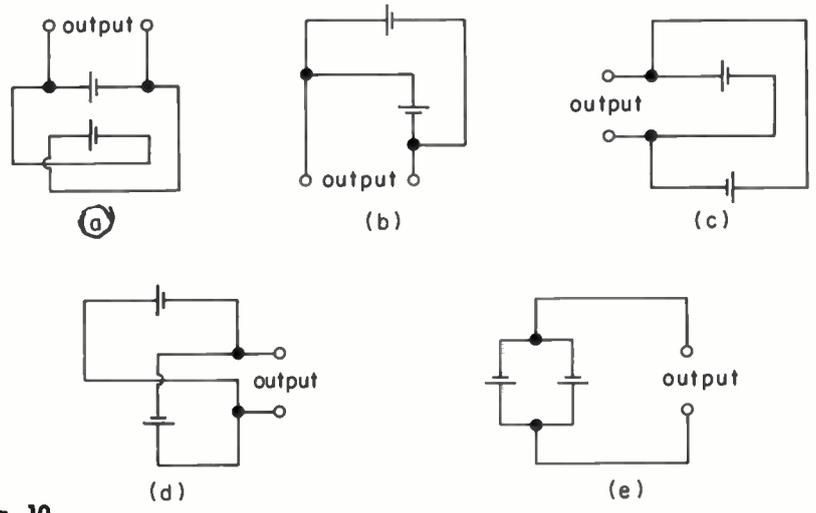

Fig. 10
6. Which one of the schematics in Fig. 10 does NOT have the batteries connected in parallel correctly?